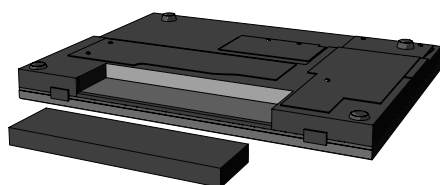

Fig.1
1. Ensure there is no power source connected to the notebook and remove battery pack. (See Fig.1)